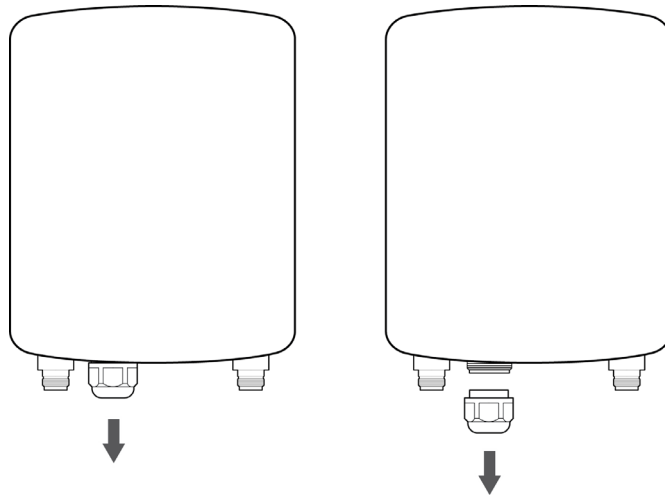

Figure 10. Removing the Sealing Nut, Clamping Claw, and Sealing Insert
1. Unscrew the sealing nut at the LAN port on the access point and remove the clamping claw and sealing insert. See Figure 10.